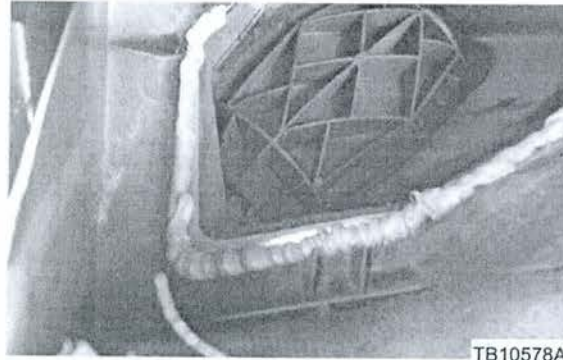

Figure 3 - Article 14-0157
6. Liberally apply Motorcraft Ultra Silicone Sealant to the bottom of the leaf guard where the intake to the heater core and evaporator core housing meet. (Figure 3)